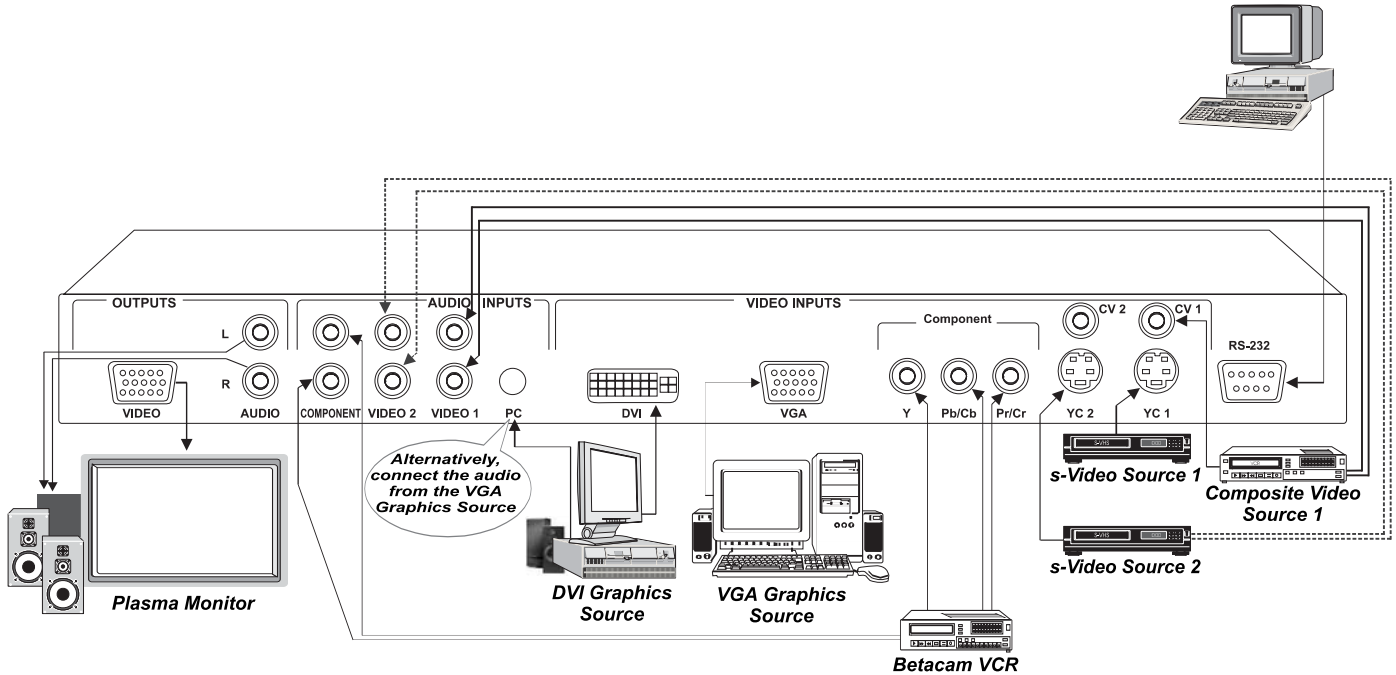

Figure 3: Connecting the VP-719DS Rear Panel
To connect the **VP-719DS**, connect the following² to the rear panel, as the example in Figure 3 illustrates:
- A component video source⁴, for example, a Betacam VCR (as illustrated in Figure 3), to the 3 RCA connectors, Y, P_b/C_b, and P_r/C_r⁵
2. Connect the stereo audio sources, as illustrated in Figure 3. In particular:
- The audio of the DVI Graphics Source to the AUDIO INPUT PC 3.5mm socket⁸. Alternatively, connect the audio from the VGA Graphics Source (not illustrated in Figure 3)
3 Connection to CV 2 is not shown in the example in Figure 3
5 Alternatively, you can connect an RGB signal (not shown in Figure 3), as follows: RED to the “Y” connector, GREEN to the “Pb/Cb” connector, and BLUE to the “Pr/Cr” connector
3. Connect the VIDEO OUTPUT HD15F connector to the video acceptor, for example, a projector or a Plasma monitor (as shown in Figure 3), and connect the AUDIO OUTPUT pair of RCA connectors to the audio acceptor, for example, a power amplifier.
4. The power cord¹ (the power connector is not illustrated in Figure 3).